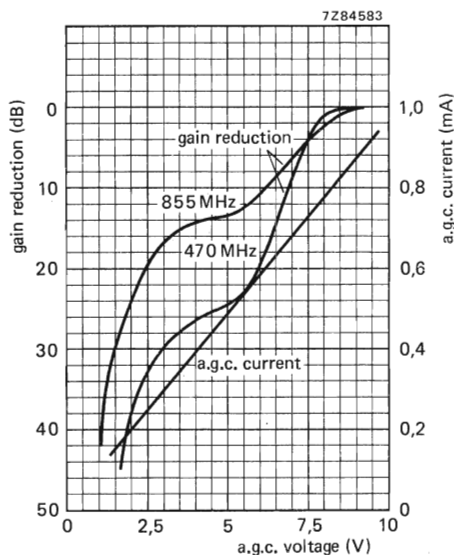

Fig. 4.
A.G.C. voltage (Fig. 4), at nominal gain	+9,2 \pm 0,5 V
A.G.C. current (Fig. 4)